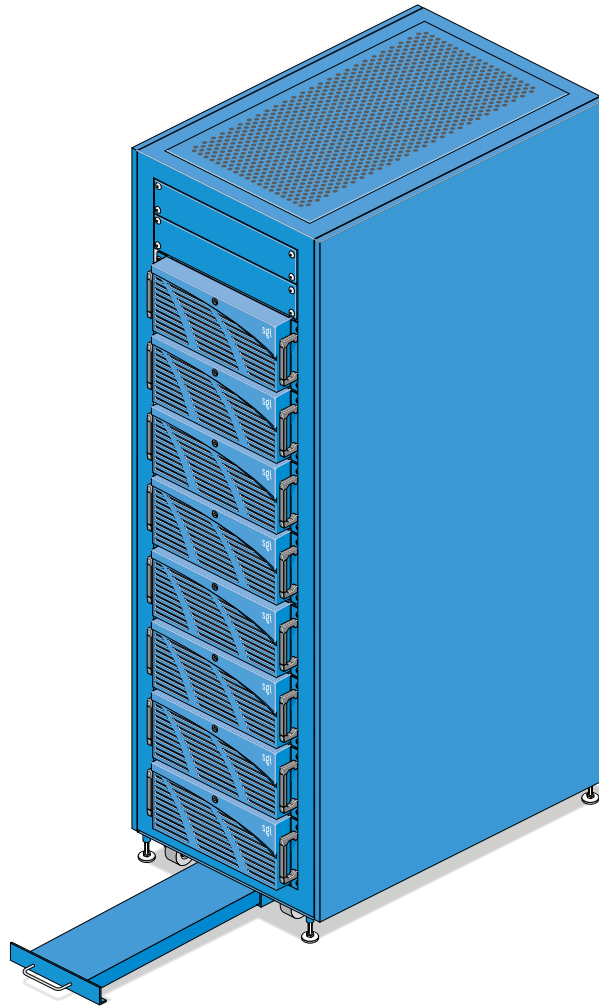

Figure 4-5 Pulling Out the Anti-tip Shelf
7. If you are pulling out a node, pull out the rack's anti-tip shelf; see Figure 4-5.
- If necessary for easier access, pull out the node that is next to the space where you want to attach the new slide rails. Pull out the rack's anti-tip shelf; see Figure 4-5 on page 42.